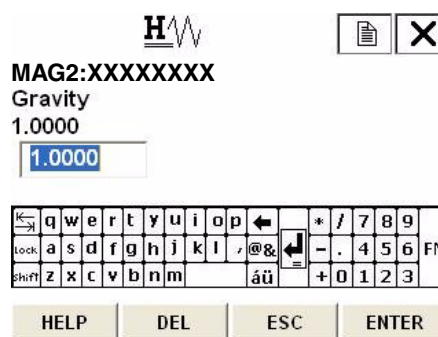

Figure 69.
- Figure 69 is then displayed.